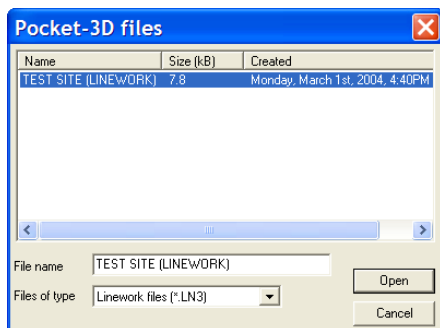

Figure 4-5. Select File and Click Open
2. On the **Pocket-3D files** dialog box, select the file type (\*.ln3) and the desired file, then click **Open** (Figure 4-5).